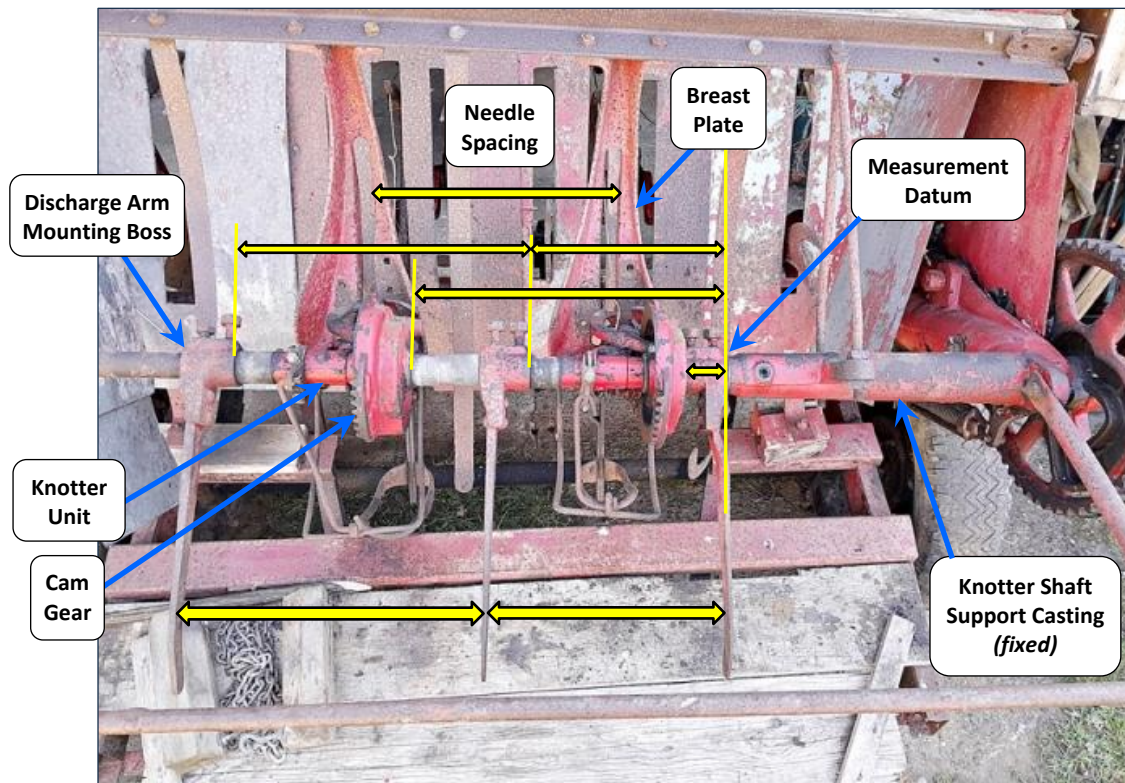

Fig.5.1 Howard trusser knotter shaft – Suggested component lateral location measurements to record
- Take plenty of photos of key components (*see Figs 5.1, 5.2 & 5.5*):
- Lateral position & spacing on the Knotter Shaft (*Fig.5.1*)
- **KEEP** the (right-hand) Knotter Shaft Support Casting in place at all times and use its left-hand end as a (*lateral*) measurement datum / fixed reference point during the upgrade process (*see Fig.5.1*)